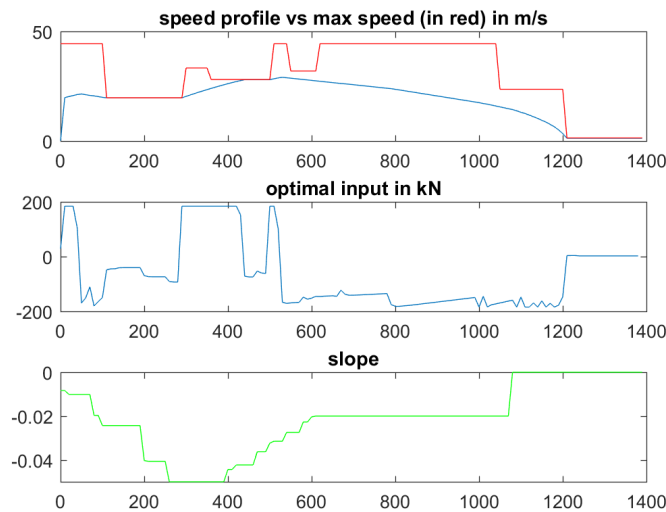

Figure 3: Example solution to the DP problem
- (b) Simulate system (20) in closed loop with the feedback controller you just computed over the whole length of the track, starting from position p_0 $v_0 = 0.1$. Submit your code. Report the optimal cost. In one plot add three subplots. Subplot 1: plot the closed-loop velocity sequence with the maximum allowable speed $\text{maxspeed}(p)$ versus position p . Subplot 2: plot the optimal input sequence versus position. Subplot 3: plot slope vs position. My solution looks like the one in Fig. 3.